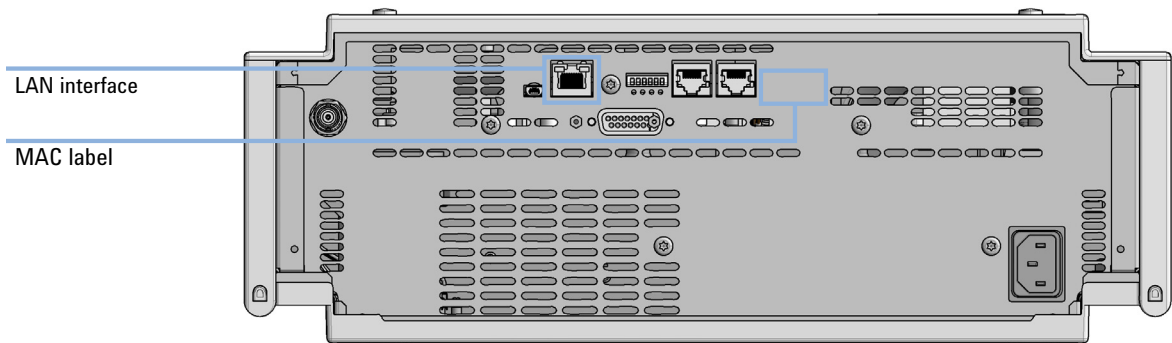

Figure 32 Location of LAN interfaces and MAC label
- 1 Note the MAC (Media Access Control) address for further reference. The MAC or hardware address of the LAN interfaces is a world wide unique identifier. No other network device will have the same hardware address. The MAC address can be found on a label at the rear of the module underneath the configuration switch (see Figure 32 on page 183).
- 2 Connect the instrument's LAN interface (see Figure 32 on page 183) to